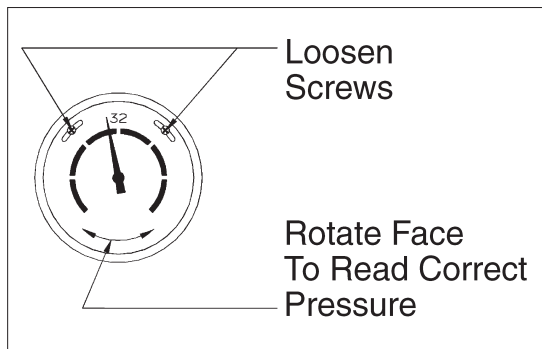

Figure 26 - Calibrating Pressure Gauge
**2.** Remove the gauge lens and loosen the 2 screws at the top of the gauge and rotate the gauge face until the indicator is pointed at the correct pressure as read with the extension type tire gauge (figure 26).